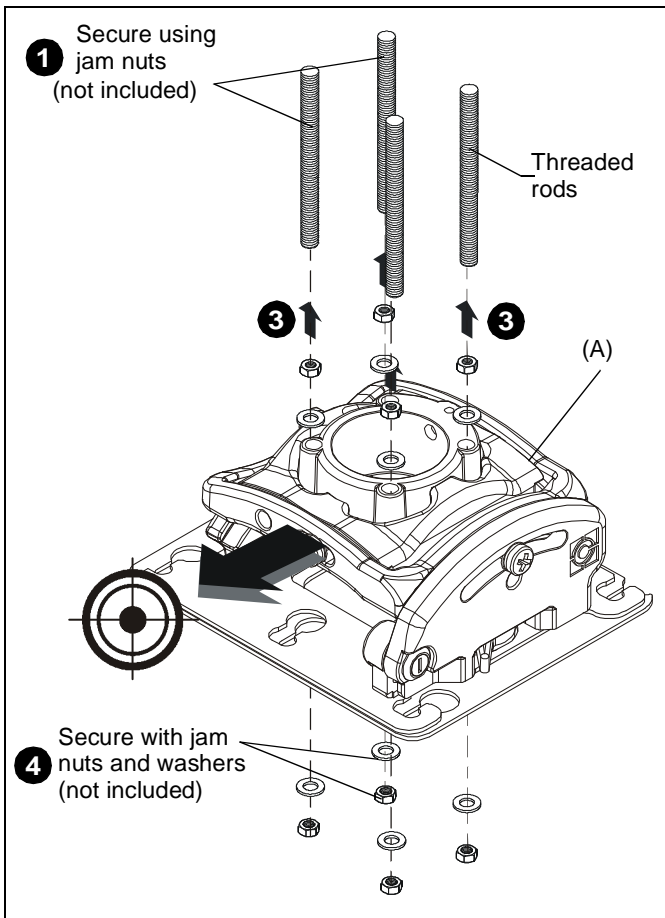

Figure 10
4. Secure the threaded rods to the RPME with 1/4" jam nuts (not included) and 1/4" washers (not included). (See Figure 10)